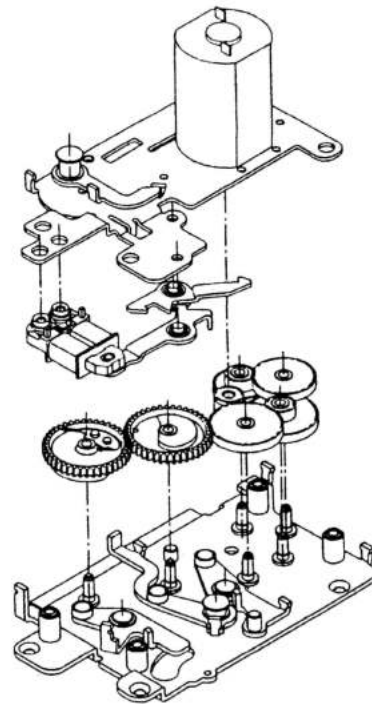

Fig.4 Mirror Drive and Aperture Control Unit
(3) Mirror Drive and Aperture Control Mechanism (Fig.4)